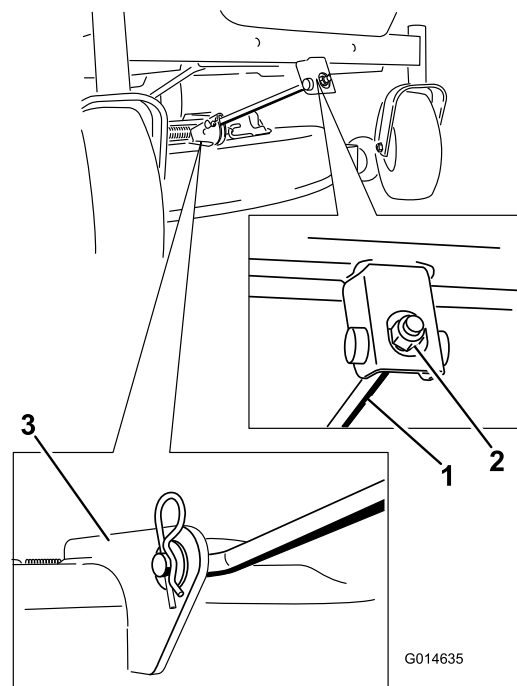

Figure 63
5. Remove the hairpin-cotter pin from the front support rod, and remove the rod from the deck bracket (Figure 63).
- Attach the front support rod to the mower deck with the clevis pin and hairpin-cotter pin (Figure 63).